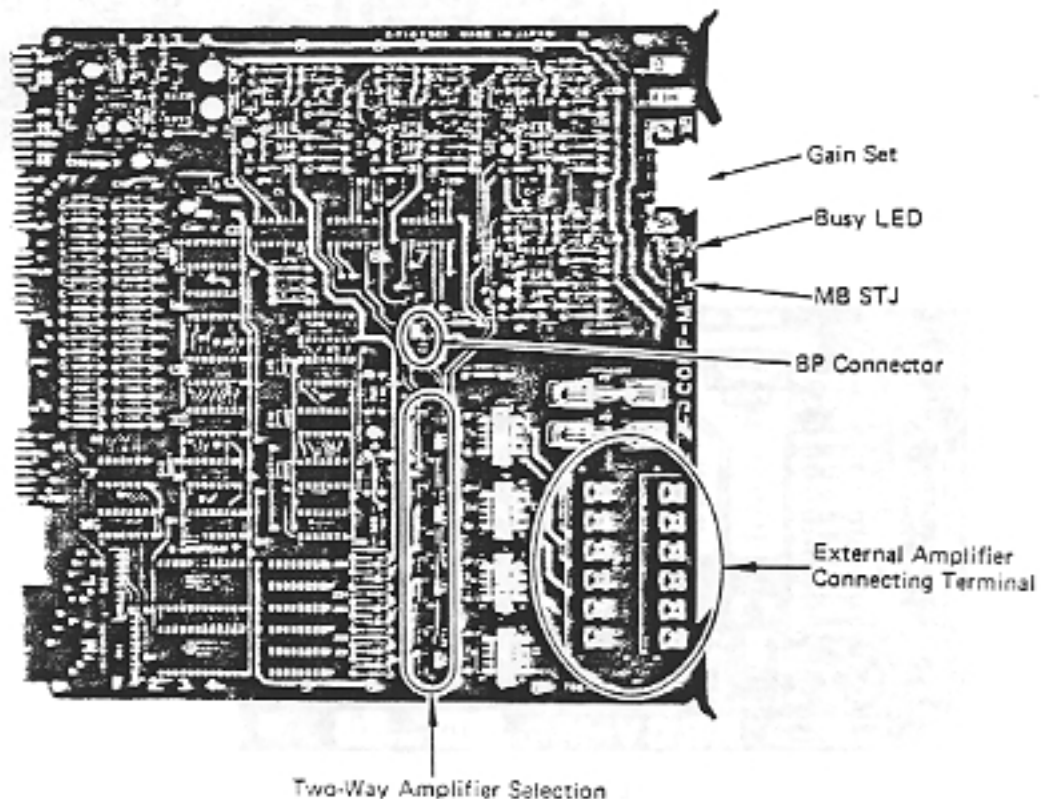

Figure 3.6.2.5.9(1) External View of CONF-M
CO/PBX lines are connected to the two-way amplifiers built into this unit or to externally connected two-way amplifiers. Figure 3.6.2.5.9(1) shows an external view of the CONF-M.